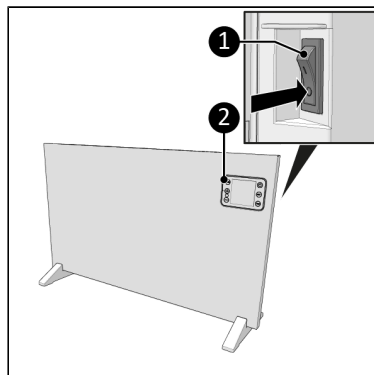

Figure 33.
1. Set the ON/OFF switch to the ON position (Figure 33, pos. 1).
2. The display (Figure 33, pos. 2) will show OFF.